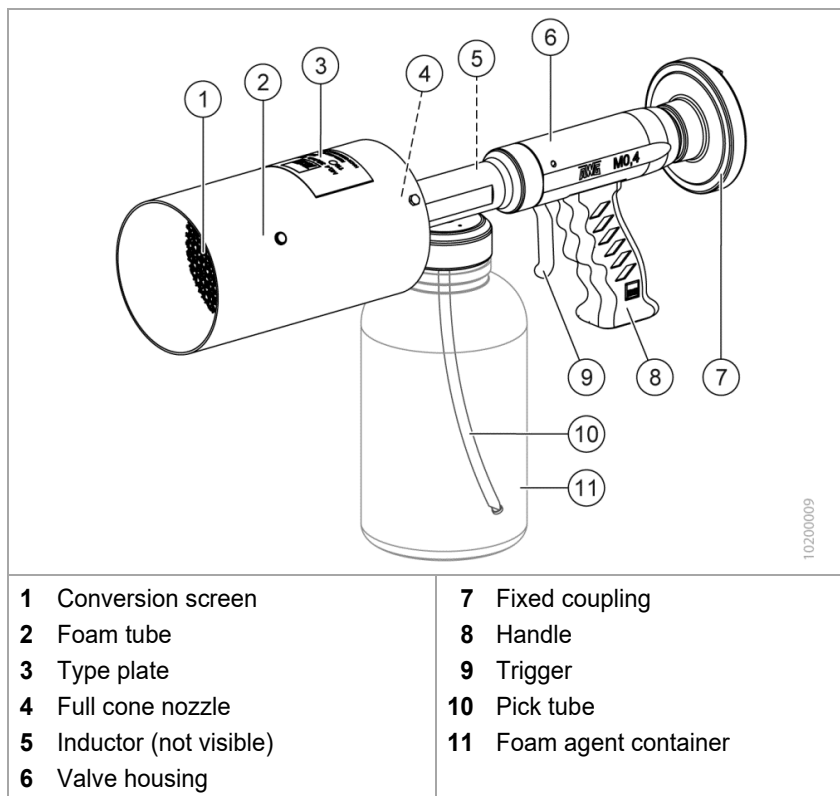

Fig. 1 Overview AWG Medium expansion foam pistol M0,4
The admixing rate of either 1 % or 3 % can be changed by exchanging the pick tube (Fig. 1/10). Ex factory, the pick tube is fitted with the reducer for an admixing rate of 1 %. The pick tube for an admixing rate of 3 % is loosely enclosed (see details in Fig. 4/2.1 and 2.2).
2. Use a waterproof marker to indicate on the type plate (Fig. 1/3) the admixing rate.